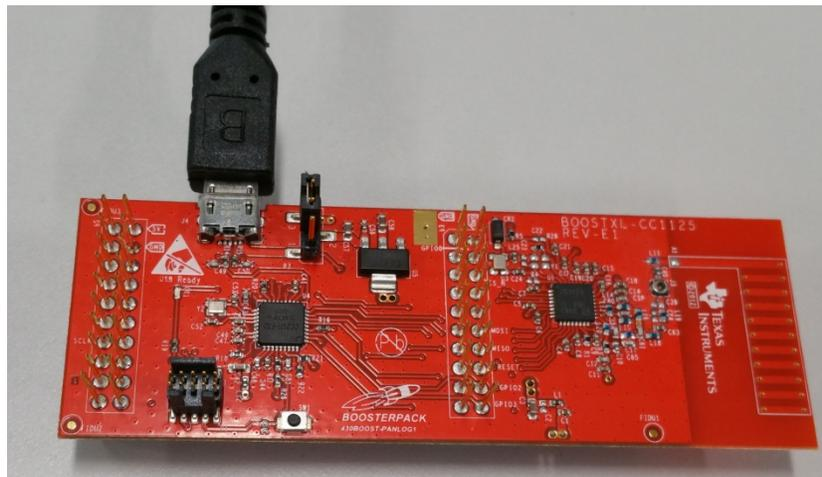

Figure 6. BOOSTXL-CC1125 With USB Cable
1. Connect the USB cable from the PC to the J4 of the BoosterPack as shown in Figure 6.